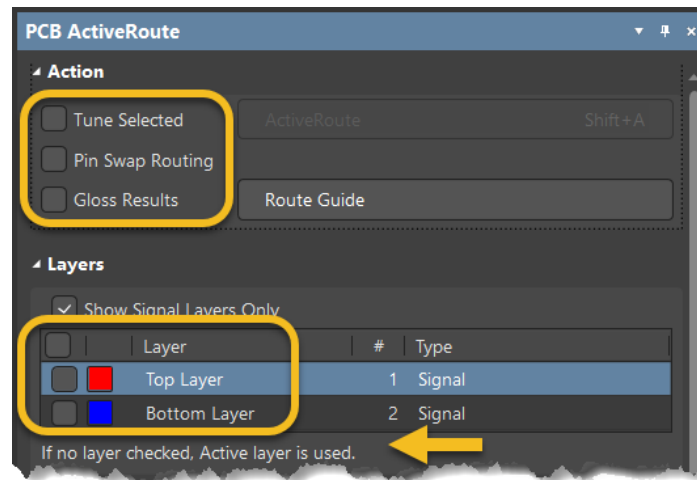

Figure 3. ActiveRoute Panel using the default layer
18. Now, with 14 connections selected again, select the **Panels** button in the lower right and open the *PCB ActiveRoute* panel. Deactivate the Bottom Layer. Now, ActiveRoute will use the active layer, for example the Top Layer, Figure 3.